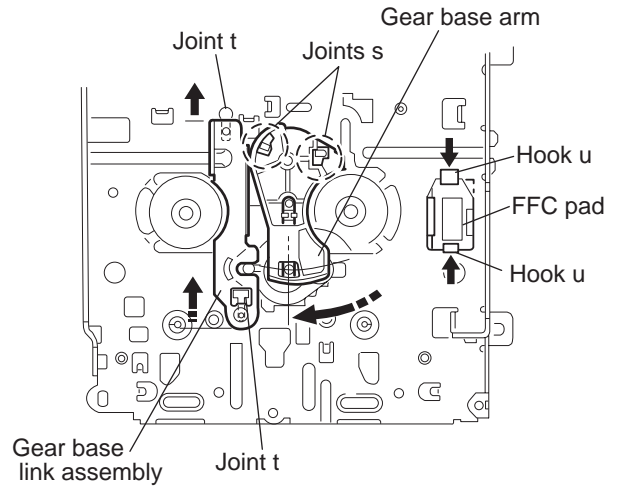

Fig.23
3.2.13 Removing the gear base arm / gear base link assembly (See Fig.23 to 25)